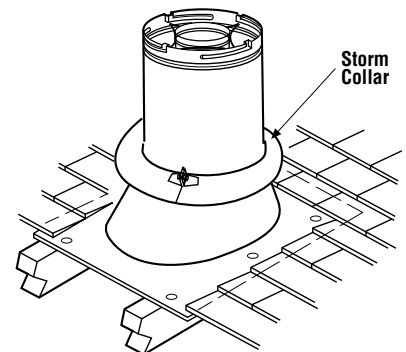

Figure 26
J. Install the storm collar - Install the storm collar, supplied with the flashing, over the vent/flashing joint. See **Figure 26**. Loosen the storm collar screw. Slide collar down until it meets the top of the flashing. Tighten the adjusting screw. Apply non-combustible caulking or mastic around the circumference of the joint to provide a water tight seal.